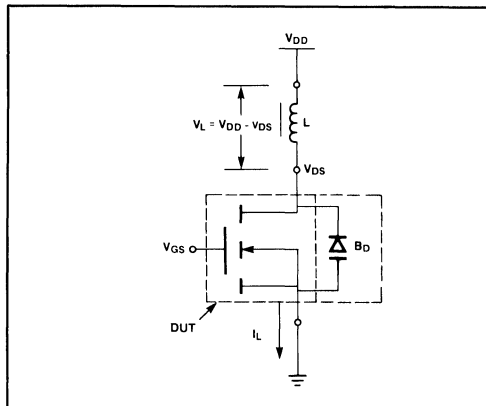
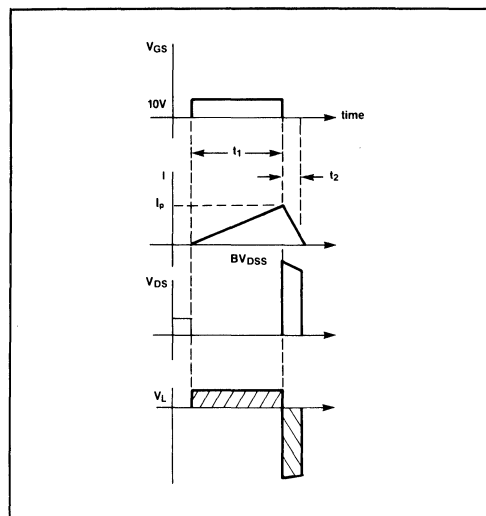

Figure 9a. UIS Test Circuit
Figure 9b. UIS Test Timing Dynamics
The test circuit (Figure 9a) consists simply of a power source (V_{dd}), inductor (L), and the MOSFET being tested, referred to as the device under test (DUT). The waveforms shown in Figure 9b, reveal the dynamics of the test.